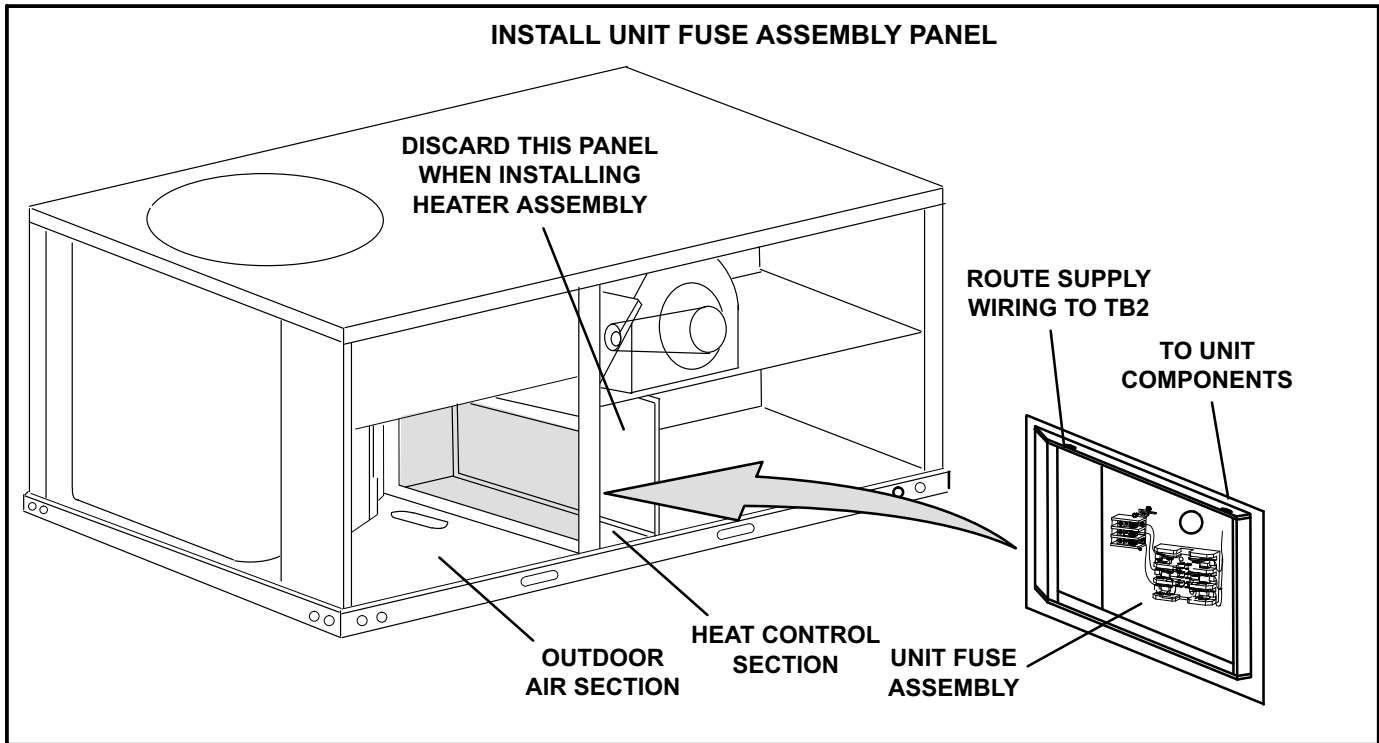

FIGURE 2
- 3- Remove cover from assembly and install fuses. See figure 2 and the unit nameplate for appropriate fuse size.
- 4- Install unit fuse assembly into heat control section. See figure 2. Secure assembly with sheet metal screws from the heat control section.
- 6- Uncoil wire harness connected to F4 and route through top of assembly and conduit. See figure 2.